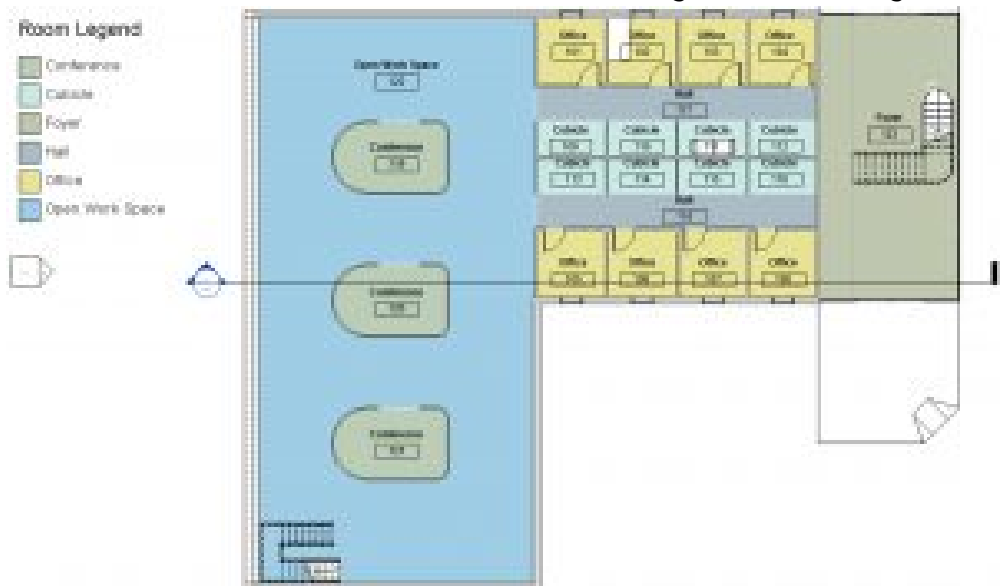

Figure 8.7 Section Line placed on the Level 1 floorplan
3. Draw a section line across the Level 1 view from left to right as shown in Figure 8.7